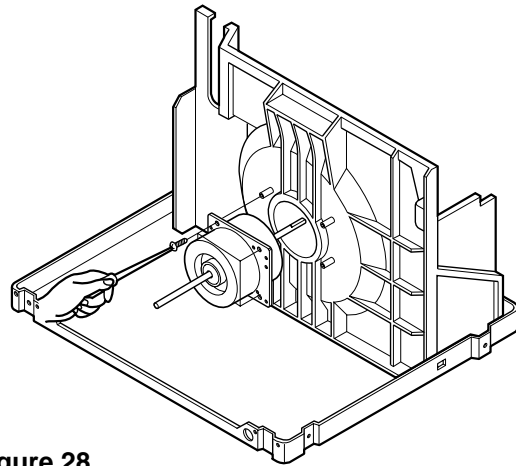

Figure 28
4. Remove the 4 screws which fasten the motor from the air guide. (See Figure 28)
6. Re-install the components by referring to the removal procedure, above. (See Figure 28)